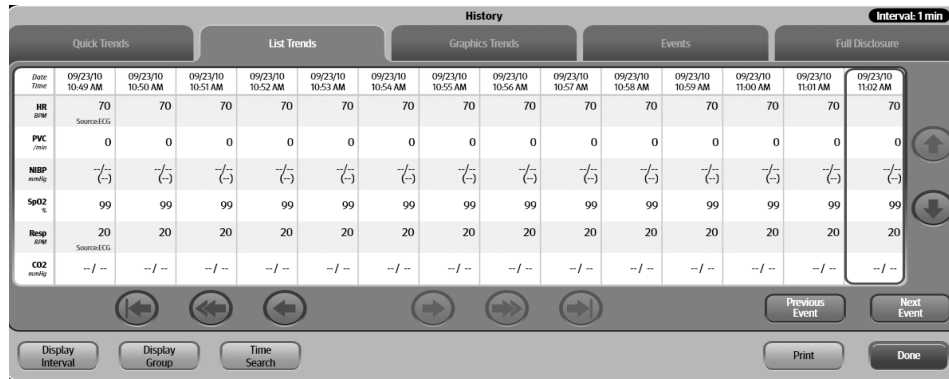

FIGURE 20-2 Example History Dialog (List Trends Tab)
2. Select the **List Trends** tab (as shown in FIGURE 20-2).
NOTE: The Display Interval in FIGURE 20-2 is configured for one (1) minute intervals. Refer to "Configuring a Display Interval" on page 20-16 for more information.